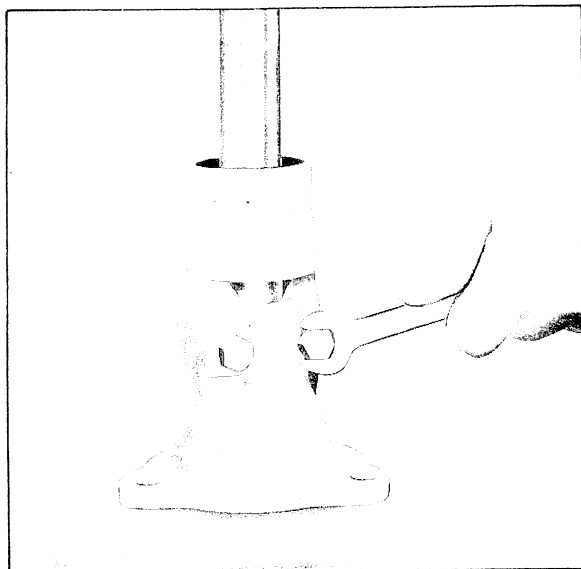

Figure 104
3. Remove the hex bolts holding the basket hub to the drive tube. Slip out the basket hub clamp, and slide the basket hub off the drive shaft, *Figure 104*.